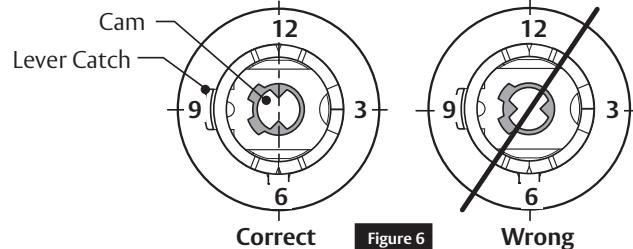

Figure 6
- Turn cam so points are up and down, 6 o'clock and 12 o'clock. (Figure 6)